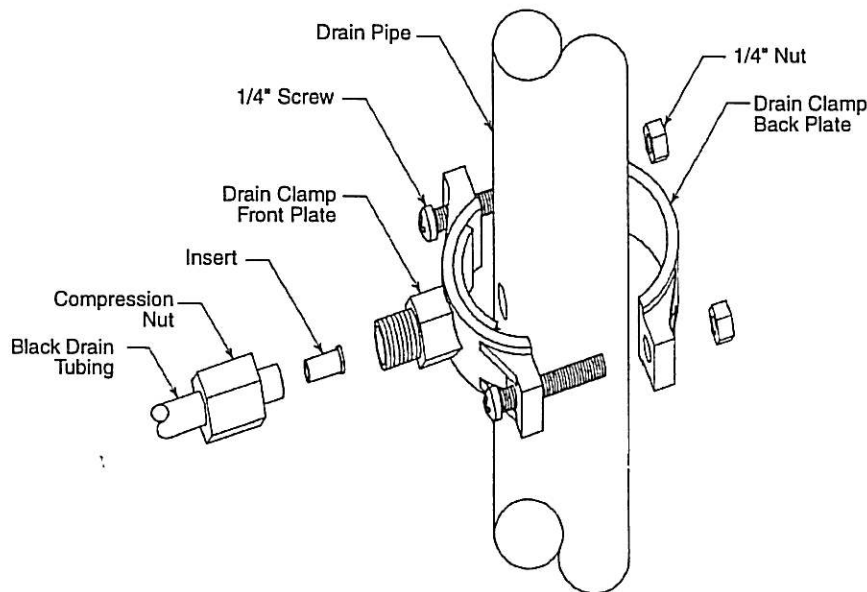

Figure 4
- Refer to Fig. 4, page 10. To connect the Drain Tubing, install the Compression Nut and the Brass Insert.